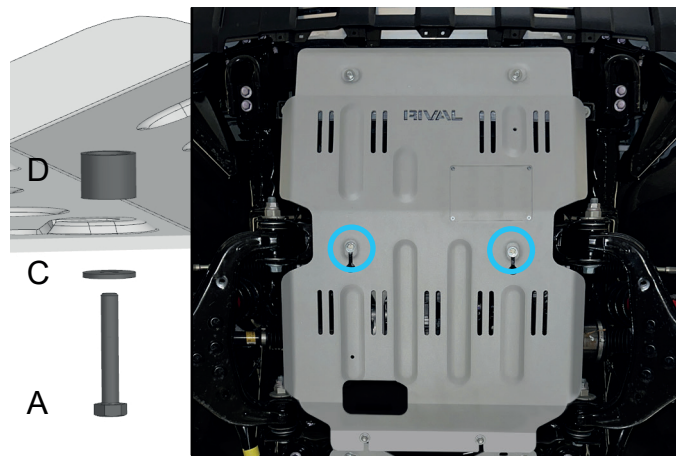

Fig. 9
9. Fix middle part of the engine skid plate using spacers (item D), bolts M8x40 (item A) and washers 8 (item C) as shown in fig.9.